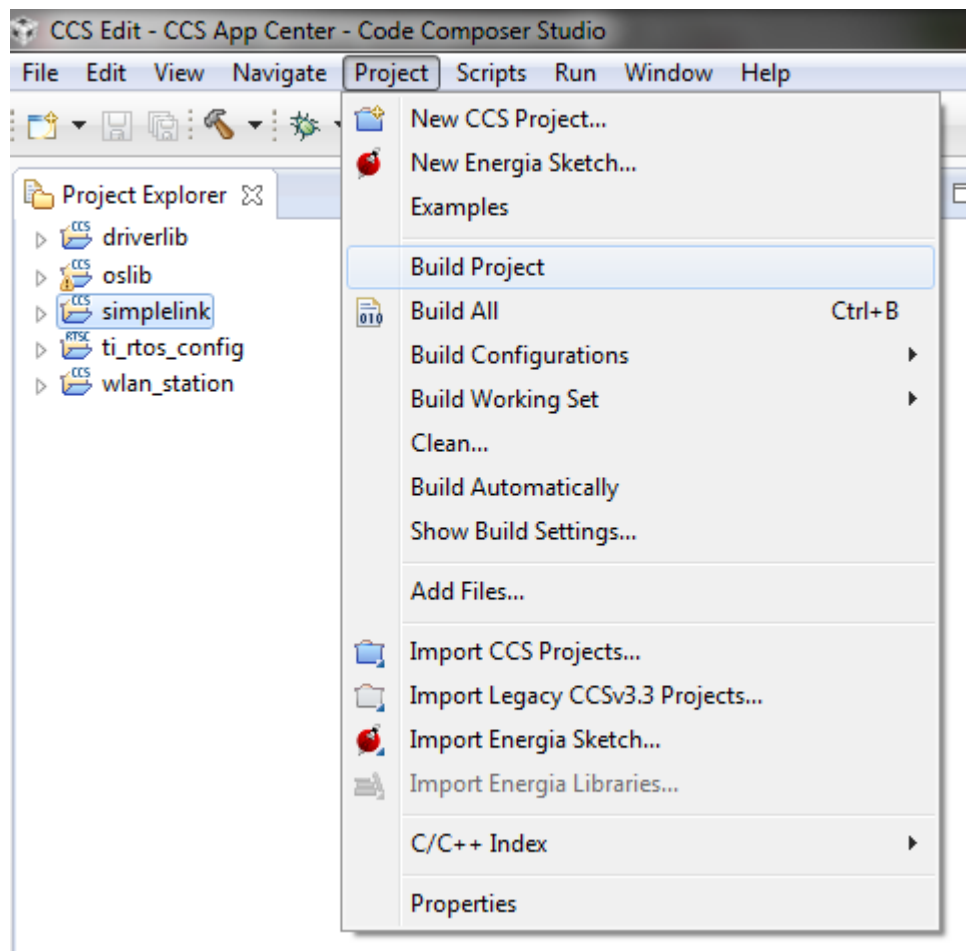

Figure 8. Select SimpleLink Project
5. Select the simplelink project and build it as shown in Figure 8.